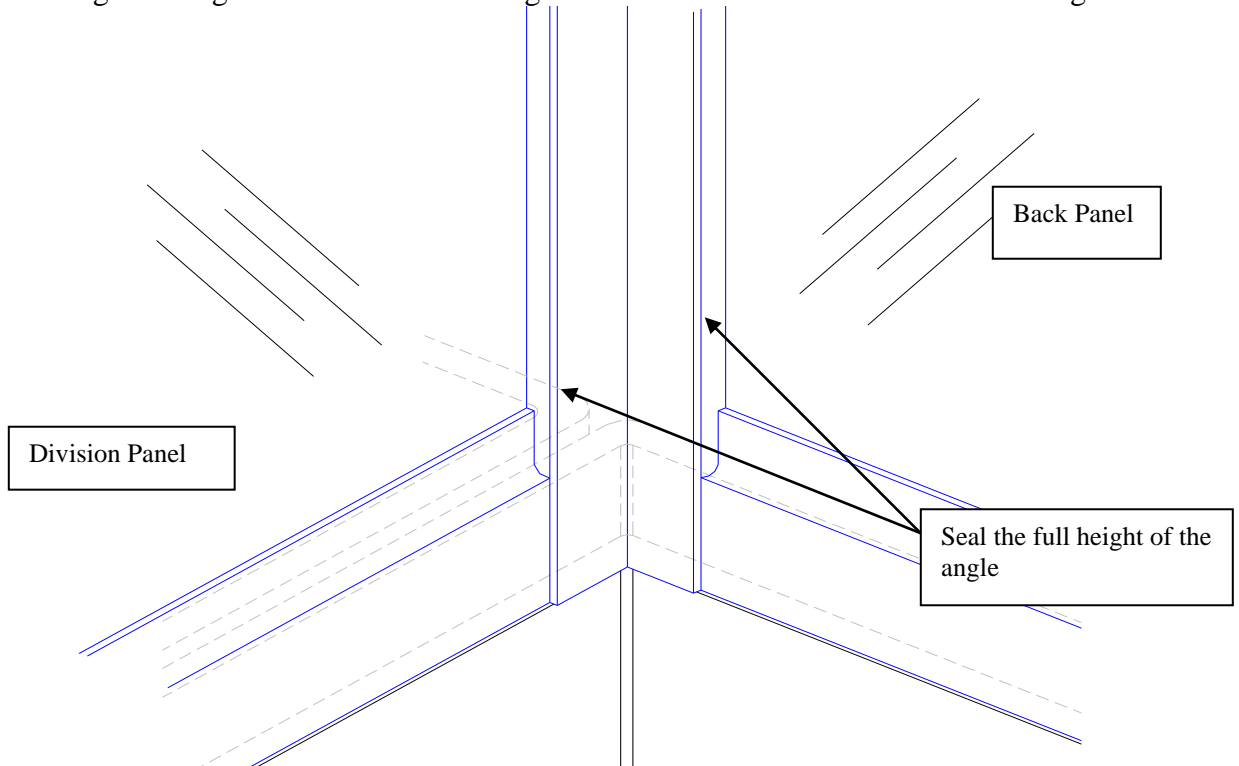

Figure 11.
2. Seal along both edges of the 3/4" x 3/4" angle used for the corner connections. See Figure 11.